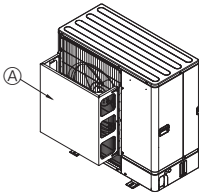

Fig. 2-5
② Install an optional air outlet guide if the unit is installed in a location where strong winds from a typhoon, etc. may directly enter the air outlet. (Fig. 2-5)